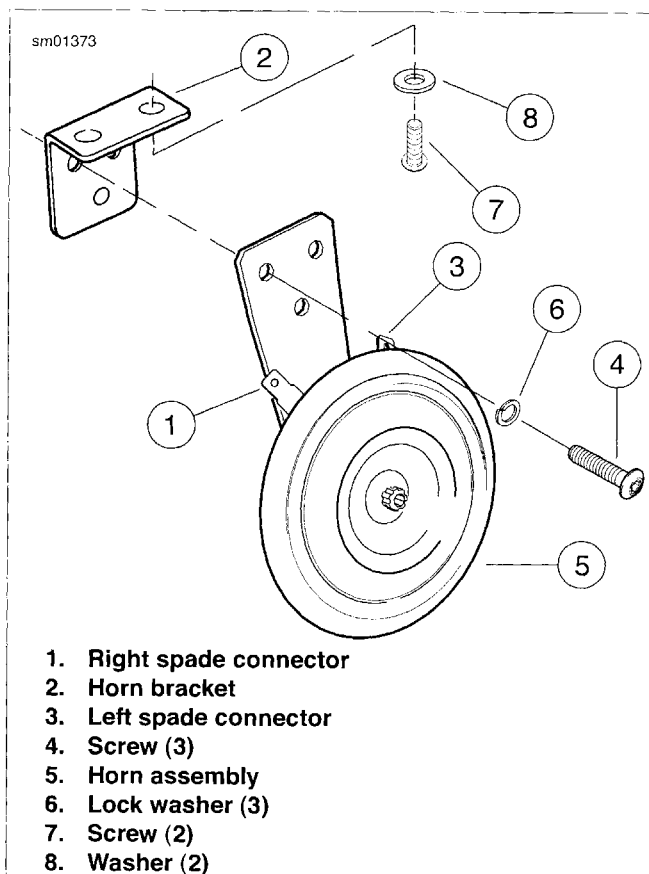

Figure 6-122. Horn Components (Models with Front Mounted Horn)
1. See Figure 6-122. Remove terminal clips from horn spade connectors (1, 3).
2. Remove screws (4) and lock washers (6) from horn bracket (2) and remove horn assembly (5).
4. Install the yellow wire with black tracer to the left spade connector (3) and the black wire to the right spade connector (1).